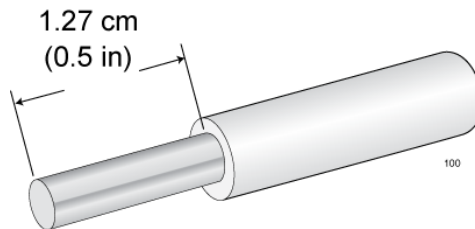

Figure 37. Stripping the Grounding Wire
1. Prepare an adequate length of stranded grounding wire (10 AWG) for the ground connection by stripping it as shown in Figure 37.